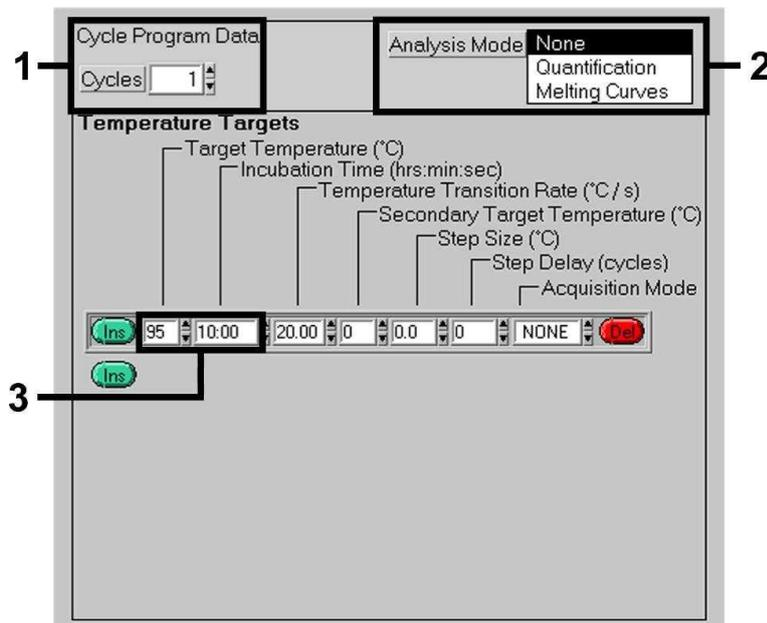

Fig. 3: Initial Activation of the Hot Start Enzyme.
For the detection of herpes simplex virus DNA, create a temperature profile on your *LightCycler* Instrument according to the following five steps (see Fig. 3 – 7).
- A. Initial Activation of the Hot Start Enzyme Fig. 3